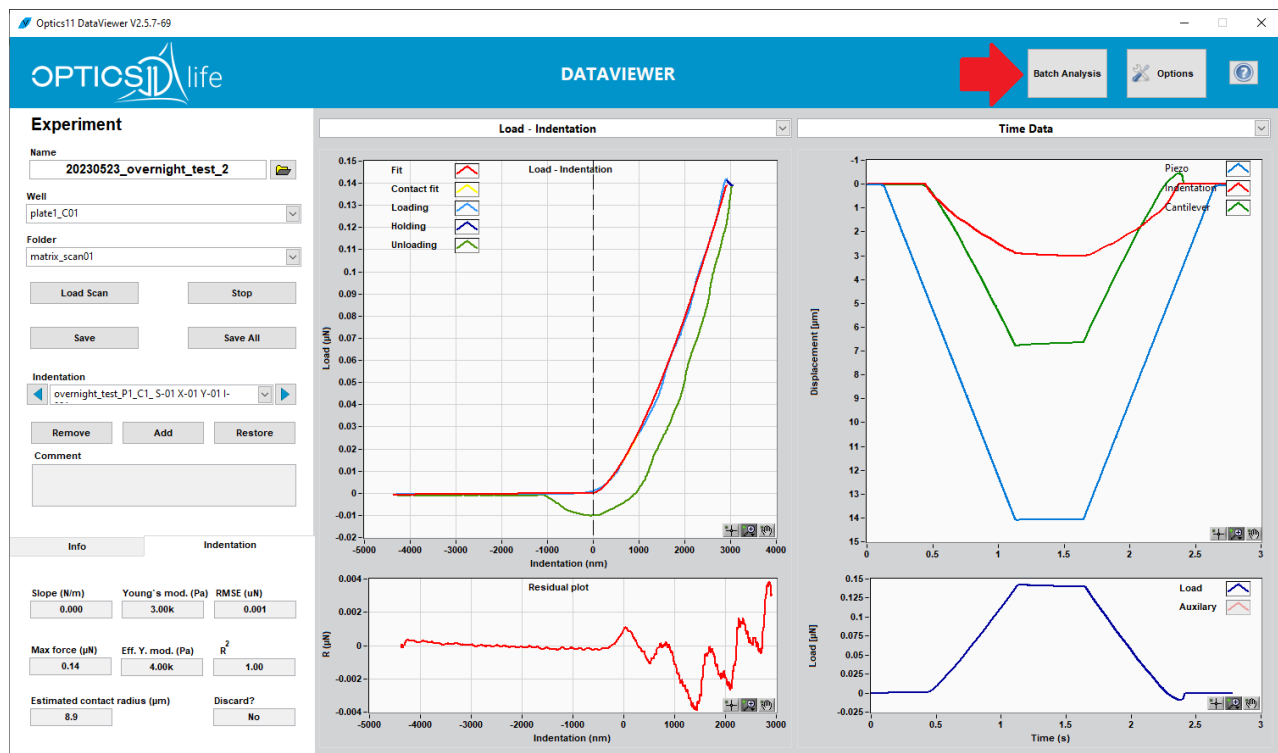

Figure 11: New GUI of the DataViewer v2.6.0 with the Batch Analysis button next to the Options.
1. To use the batch analysis feature, click on the “Batch Analysis” button next to the Options as shown by the red arrow on Figure 11.